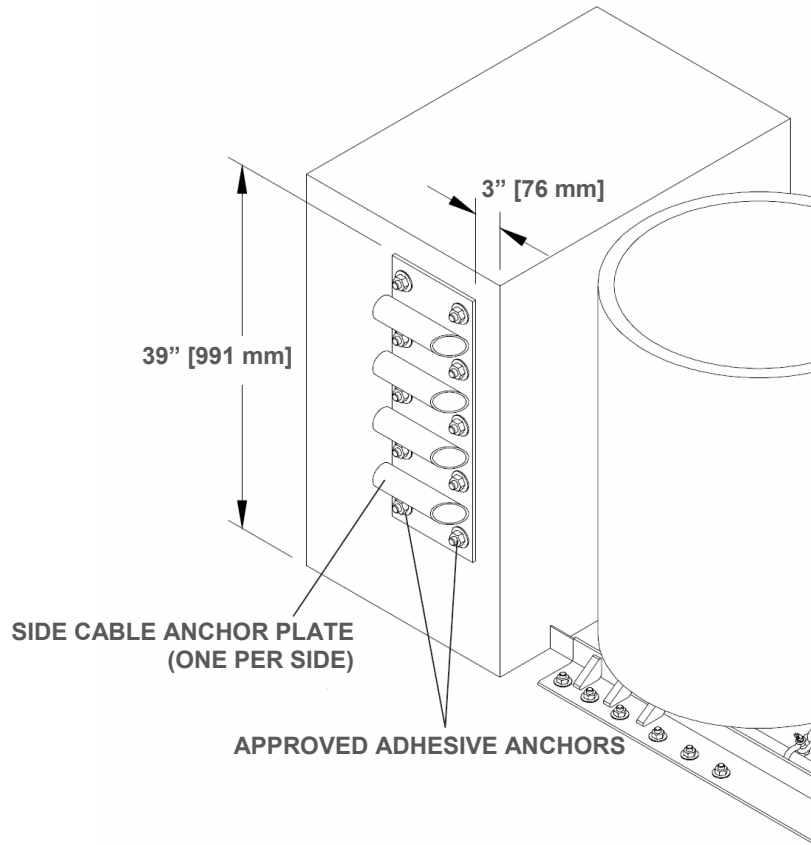

Figure 13
Use the holes in the Base Track as a template to locate and drill thirty eight (38) holes, 22 mm [7/8"] diameter x 6 1/4" [160 mm] deep into the concrete pad or roadway surface (Figure 13). **All holes in Base Track must be used to anchor the REACT 350® Narrow to the foundation.** Use approved adhesive kits to assemble 3/4" diameter x 7 1/2" long studs using instructions included with kit. After adhesive has hardened, use 3/4" nuts and flat washers included with the approved adhesive kits to anchor Base Track to foundation.